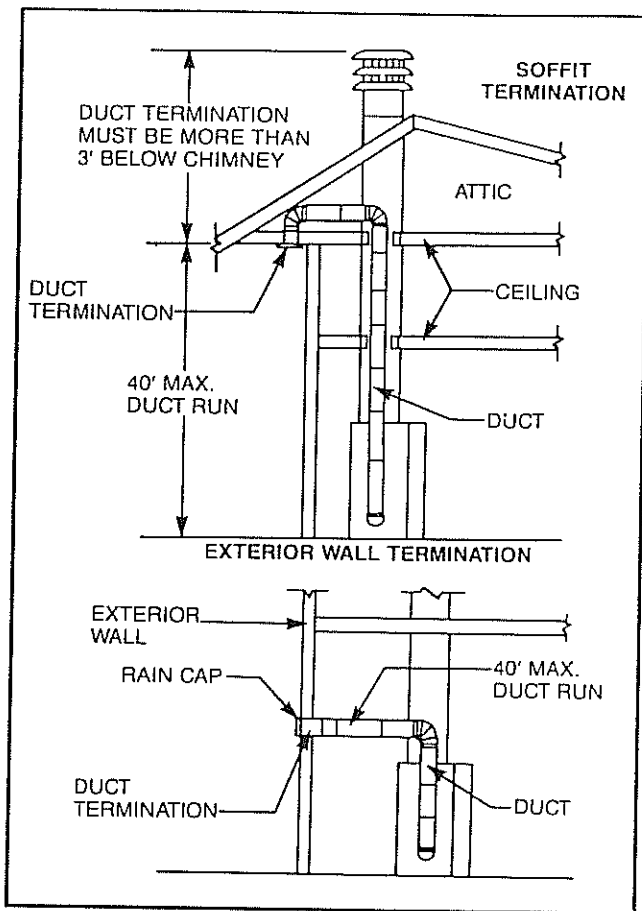

Fig. 16. Typical installations.
Determine the location of the fireplace as described in this fireplace Installation Manual. Then plan the location of the duct termination and the route of the duct run between the fireplace and the duct termination. (Refer to Fig. 16.)
Duct run must be limited to a maximum distance of 40 feet from the fireplace pipe collar to duct termination. This will provide the least restriction to air flow. No more than four 90° elbows can be used. Duct run may be horizontal, vertical, inclined or any combination of these. Vertical duct runs must be at least three (3) feet below the fireplace chimney flue exit. (See Fig. 16.)